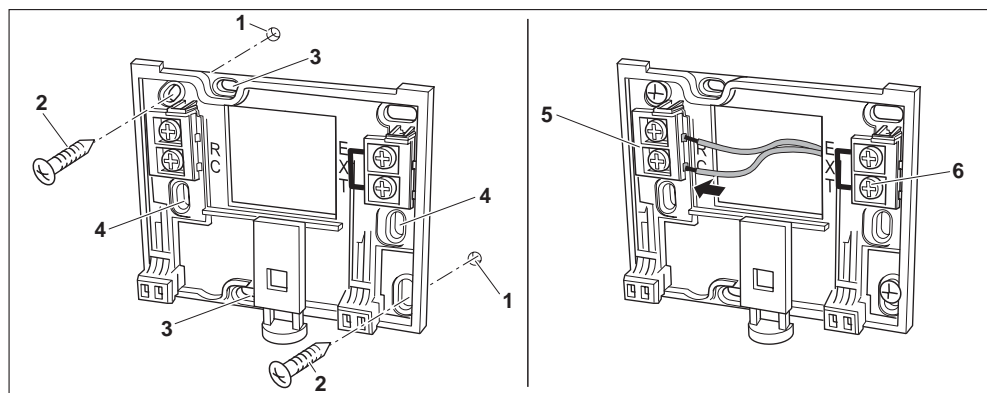

Fig. 3 Mounting the wall bracket (left) and connecting the wires (right)
- Use the horizontal or vertical mounting holes (Fig. 3, 4).
- Mount the wall bracket (Fig. 3, left).
- Connect the two-wire bus cable from the Energy Management System (EMS) to the “RC” cable terminals (Fig. 3, 5).
- If the RC35 is operated without an external room sensor, a jumper is required on the “EXT” terminals (Fig. 3, **6**) (the jumper is factory fitted).